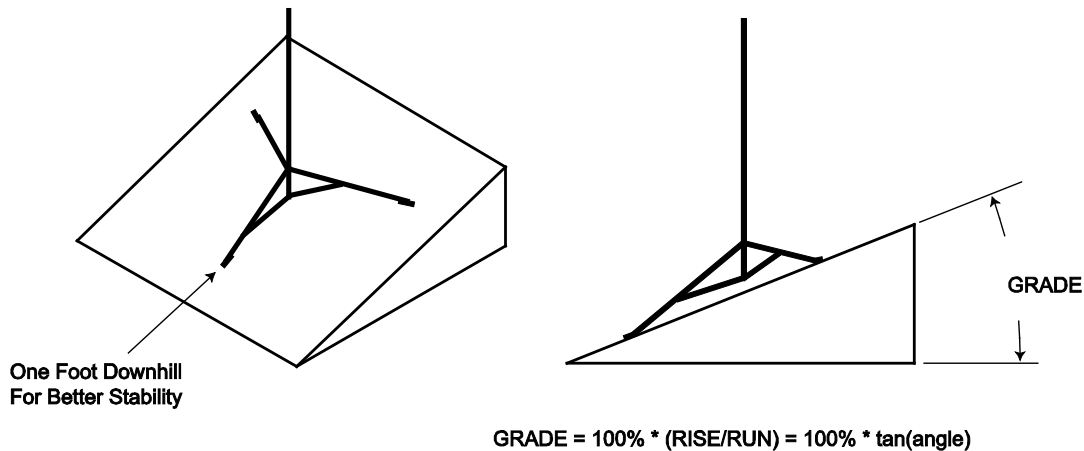

FIGURE 6-2. Installation on an incline
**Maximum Slope Angle:** 45° or 100% grade (FIGURE 6-2)
Loosen the tension bolt and extend each leg. With the legs extended, orient the tripod so that one leg points downhill and the other two legs point uphill. The tripod is more stable with only one leg pointed downhill because the mast is closer to the center of the footprint (see FIGURE 6-2).